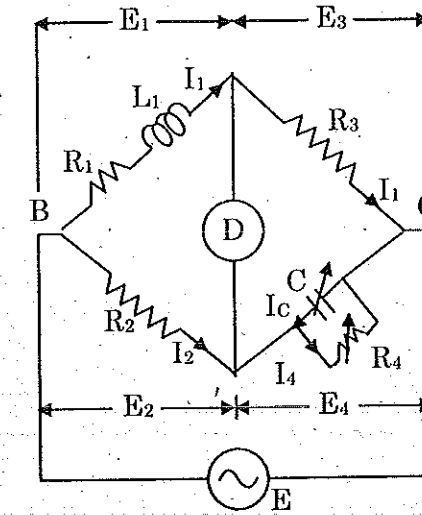

Fig. 1
- (b) A Maxwell's capacitance bridge shown in Fig. 1 is used to measure an unknown inductance in comparison with capacitance. The various values at balance : $R_2 = 400$ ohm; $R_3 = 600$ ohm; $R_4 = 1000$ ohm; $C_4 = 0.5$ μ F.